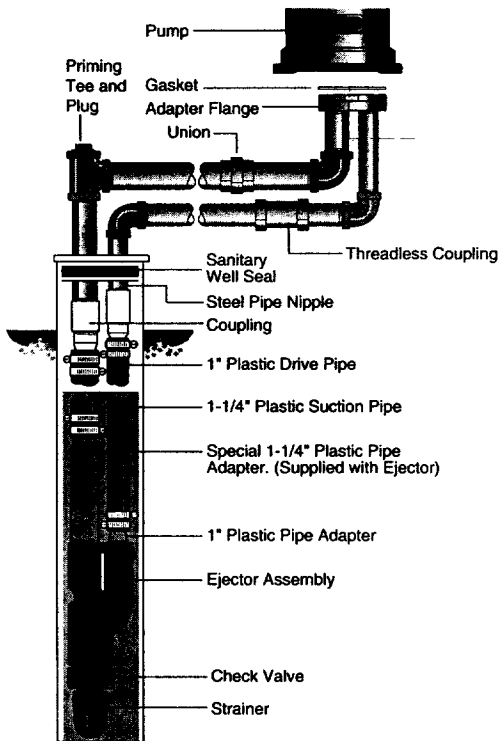

Figure 6 – Offset Installation Plastic Pipe Shown
See Figures 6, 7, and 8.
5. Using Teflon tape on male threads, install special plastic pipe adapter (supplied with ejector) by screwing adapter into 1-1/4" tapped hole in ejector body (see Figures 6 and 8, above).
9. Install sanitary well seal on top of well casing; use steel nipple through well seal as shown in Figure 6.